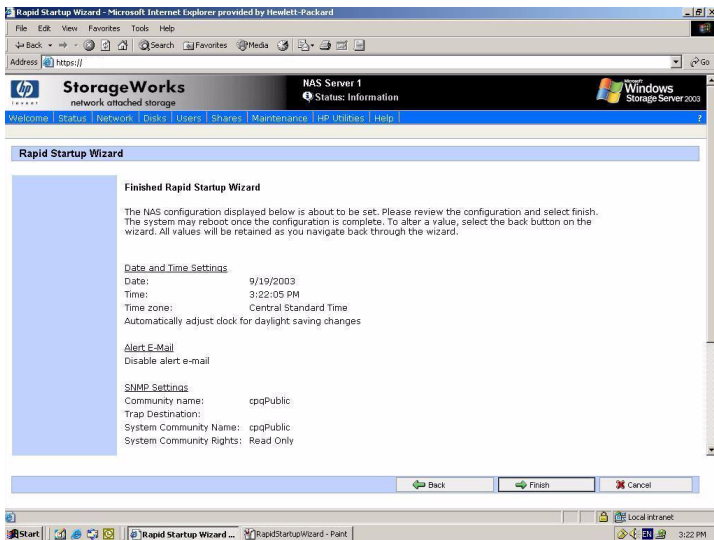

Figure 9: Rapid Startup configuration review screen
8. Verify that your information is correct when the configuration review screen is displayed as shown in Figure 9.